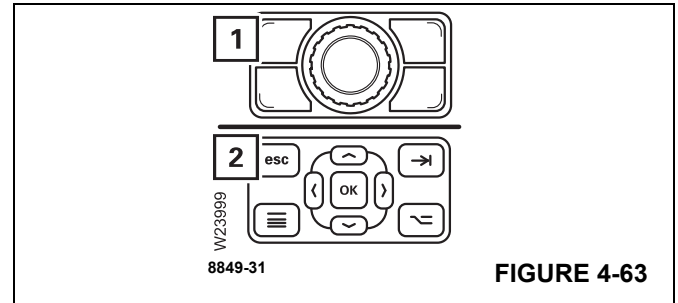

FIGURE 4-63
You can cancel the input at any time. Press button (1), (Figure 4-63) or (2), (Figure 4-63).